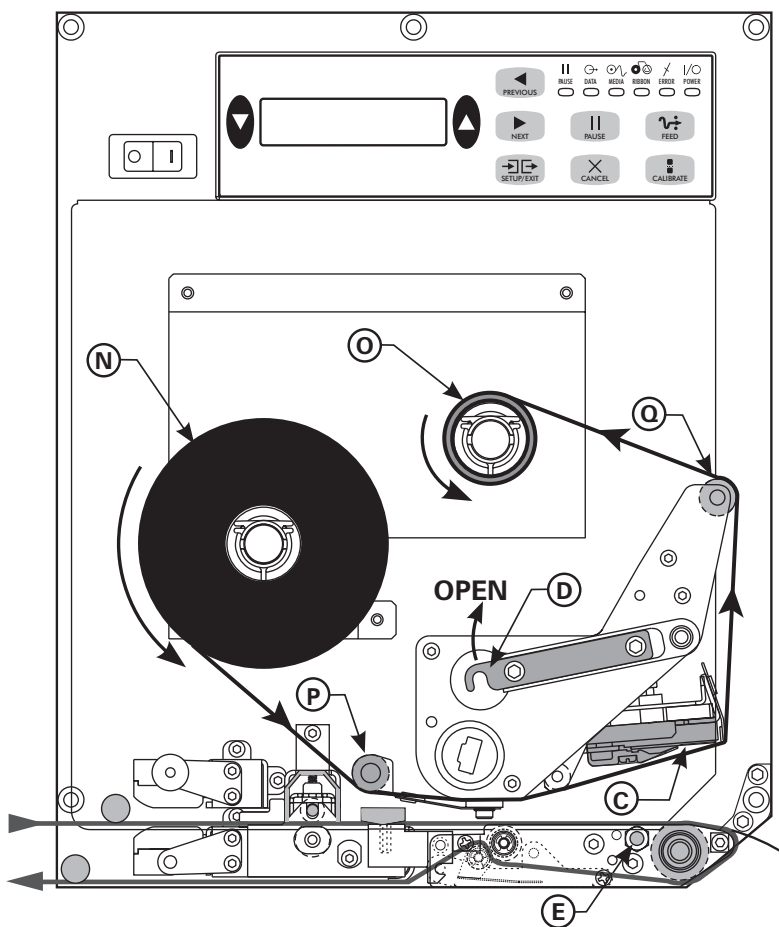
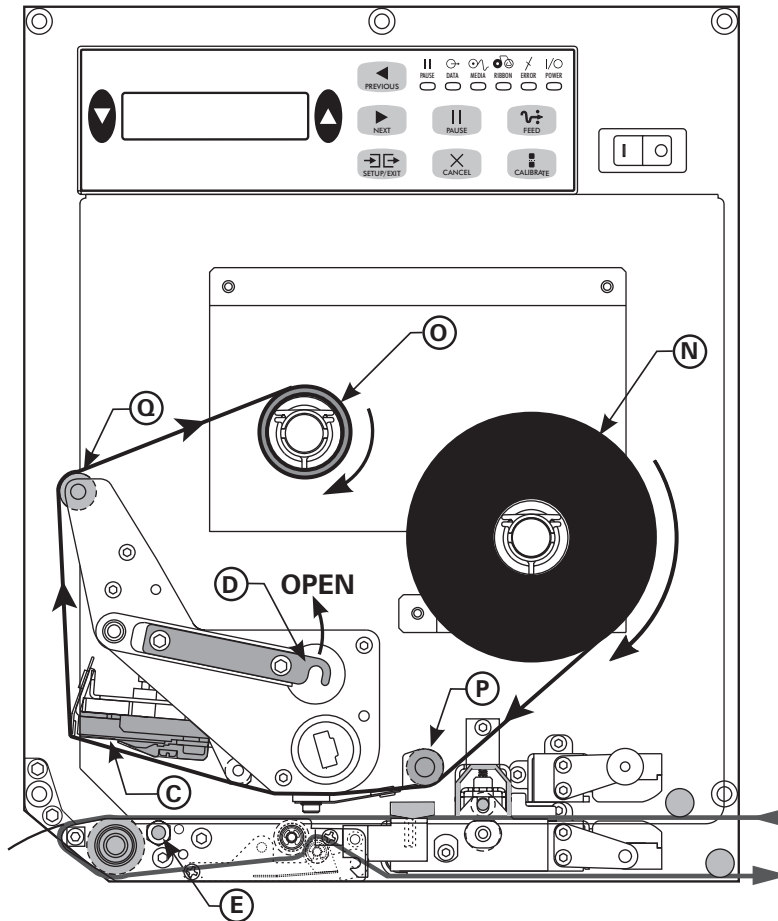

Figure 4. Ribbon Loading (Right-Hand Units)
Figure 5. Ribbon Loading (Left-Hand Units)
To load ribbon, refer to Figure 4 (for right-hand units) or Figure 5 (for left-hand units).
1. Push the ribbon roll onto the supply spindle (N) as far as it will go, so the ribbon feeds as shown in Figure 4.
2. Install an empty ribbon core onto the ribbon take-up spindle (O).
3. Open the printhead assembly (C) by unlatching the printhead lock lever (D) from the locking pin (E).
4. Thread the ribbon below the lower ribbon guide roller (P), under the printhead assembly (C), and up and over the upper ribbon guide roller (Q) as shown in Figure 4. *Use caution not to crease or wrinkle the ribbon!*
5. Attach the ribbon to the take-up spindle core (use a label if needed) and wind for several turns in the direction shown in Figure 4.
6. Close the printhead assembly (C) by latching the printhead lock lever (D) onto the locking pin (E).
3. Open the printhead assembly (C) by unlatching the print-head lock lever (D) from the locking pin (E).
4. Thread the ribbon below the lower ribbon guide roller (P), under the printhead assembly (C), and up and over the upper ribbon guide roller (Q) as shown in Figure 5. *Use caution not to crease or wrinkle the ribbon!*
5. Attach the ribbon to the take-up spindle core (use a label if needed) and wind for several turns in the direction shown in Figure 5.